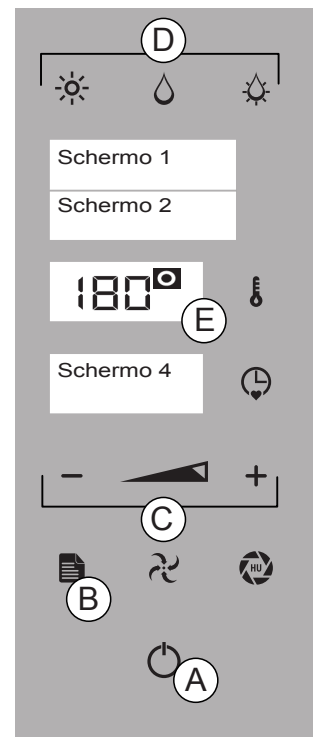

Fig.1
GAS BURNER ON /°C flashing-GAS BURNER OFF /°C fixed (Fig. 1/E- Screen 3)
Press the "ENTER" button (Fig 1/A) and proceed to manual cooking (see 6.1) or press the "MENU" key (Fig 1/B) to activate the main menu (Fig 6.1/B). Use the "MINUS" and "PLUS" keys to select the desired function (Fig 1/C). Press "ENTER" to confirm.
1. In main menu mode, press the "MINUS" or "PLUS" (Fig. 1/C) to the "OFF" function (Display 1). Press "ENTER" (FIG 1/A) TO CONFIRM.
2. In function mode, press the "ENTER" button to stop the operation, press "MENU" button (Fig. 1/B) and press the "MINUS" button (Fig. 1/C) to display the "OFF" function (Display 1). Press "ENTER" button (Fig. 1/A-see 3.3 Description of operating modes).
To set the date and time, press for 3 seconds the "TIME" and "TEMPERATURE" keys (Fig 1/D+E)
Use the "MINUS" and "PLUS" keys (Fig 1/B) select the current year and press the "ENTER" KEY (FIG 1/A) TO CONFIRM.